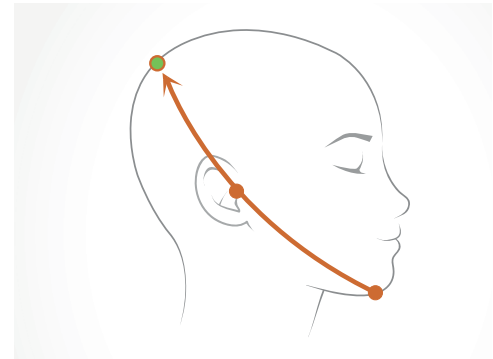

Figure 8: Crown of the head, correct position for DeltaScan Patch electrode 1 (and HairLock, in case HairLock is used).
- The crown of the head is the correct position for electrode 1 of the DeltaScan Patch. This position can be determined according to Figure 8.